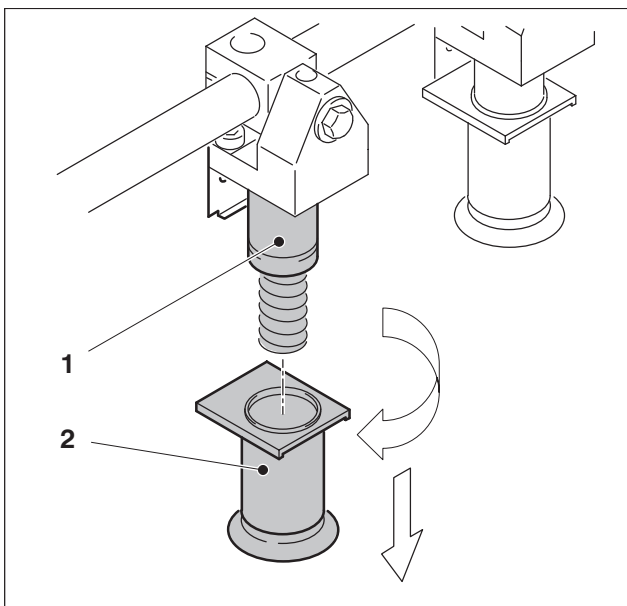

Fig. 15 Lifting sucker
1. Rotate the lifting sucker (Fig. 15/2) through 90°, and remove it.
2. Clean lifting sucker guide (Fig. 15/1) and lifting sucker (Fig. 15/2).